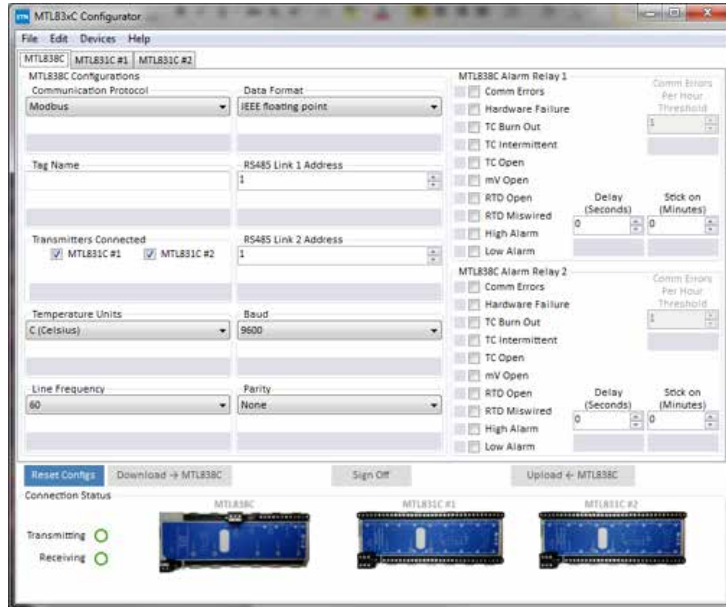

Figure 2 - The MTL838C Tab
At the bottom of the channel area, there are four (4) buttons. Only one of them is active (blue) because there is no MTL838C currently communicating. This is the Reset Configs button. If pressed, it will reset all of the parameters in the current tab to their defaults – which are as shown in Figure 2 above.